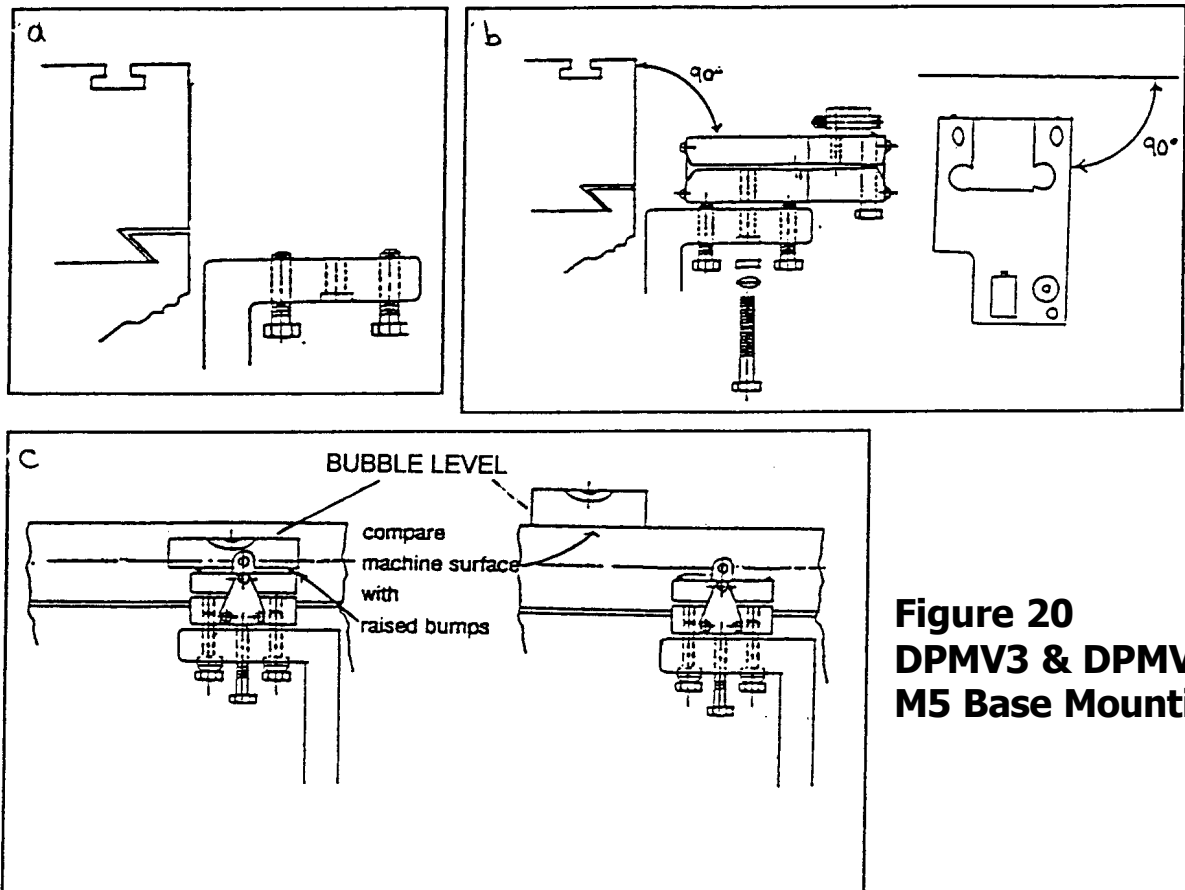

Figure 20
See Figures 20 and 21.
3. Assemble the new base as per Figure 20 .